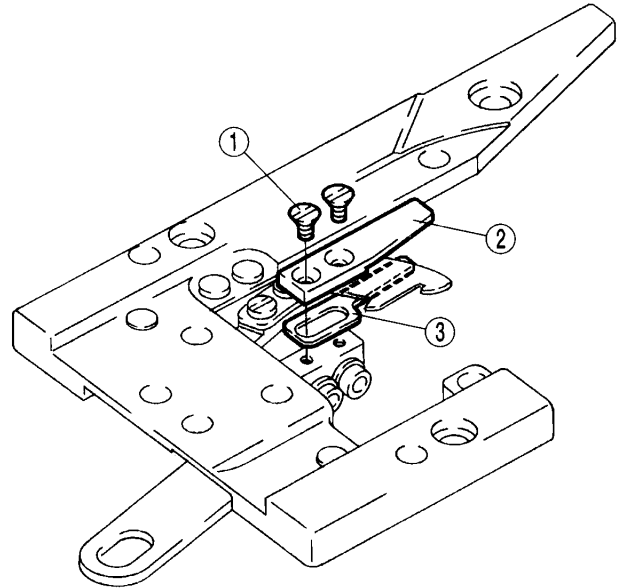

Fig.9
1. Remove screws ①. Then remove upper knife ② and flat spring ③. Replace upper knife ②. After replacing the upper knife, tighten screws ① temporarily (see Fig.9).